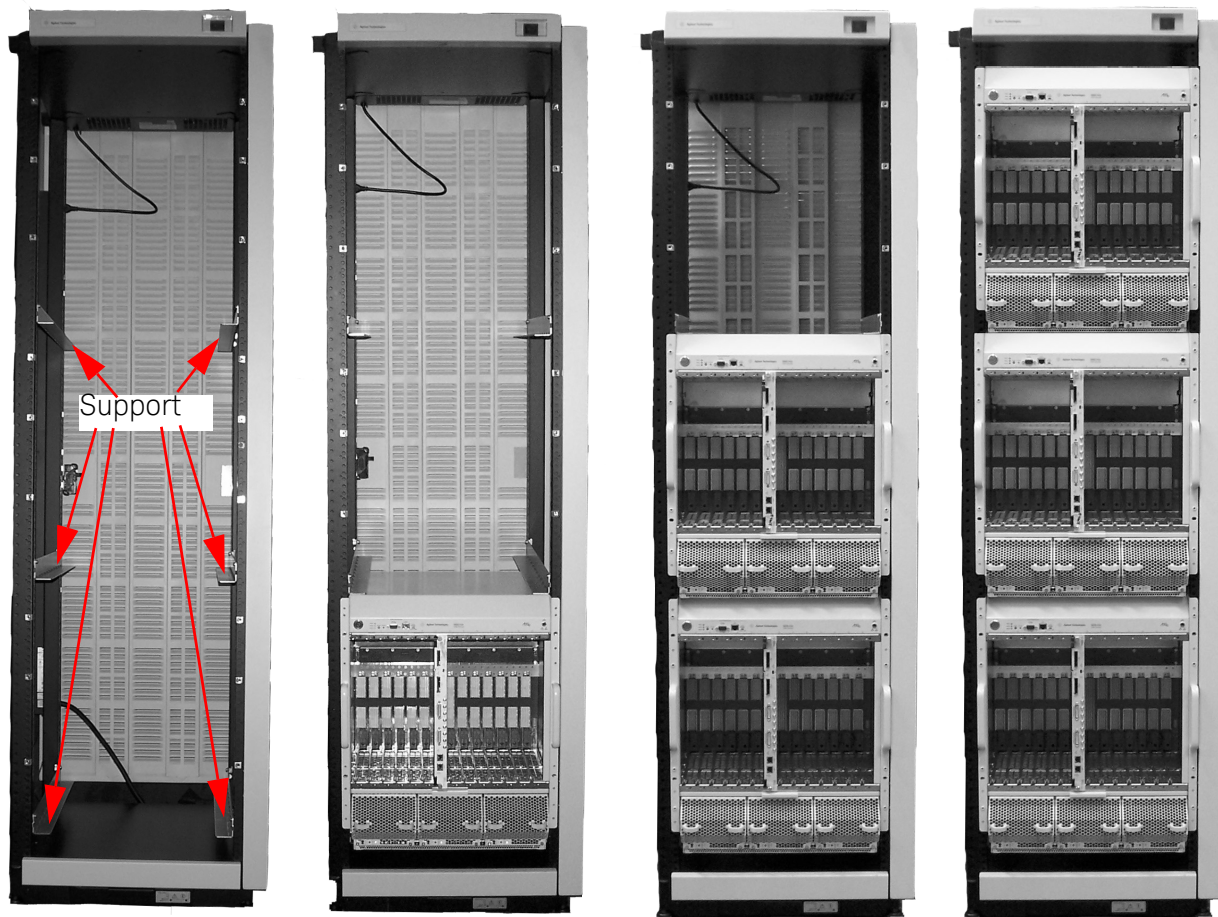

Figure 9 Support rails for three chassis in a rack
- 4 Likewise, to mount the third chassis (the top chassis), install the support rails directly on top of the second chassis. Ensure that the rails are securely installed on the rack. See Figure 9.